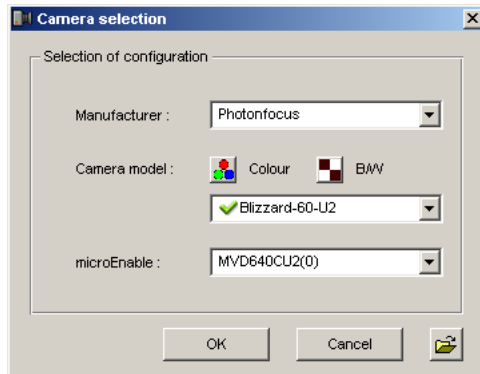

Figure 2.7: MicroDisplayUSB camera selection window
6. Start the software "MicroDisplayUSB". In the **Camera Selection** window (see Fig. 2.7), choose the camera model and press OK. This step is mandatory for proper operation of the camera, because it uploads the USB firmware into the camera.